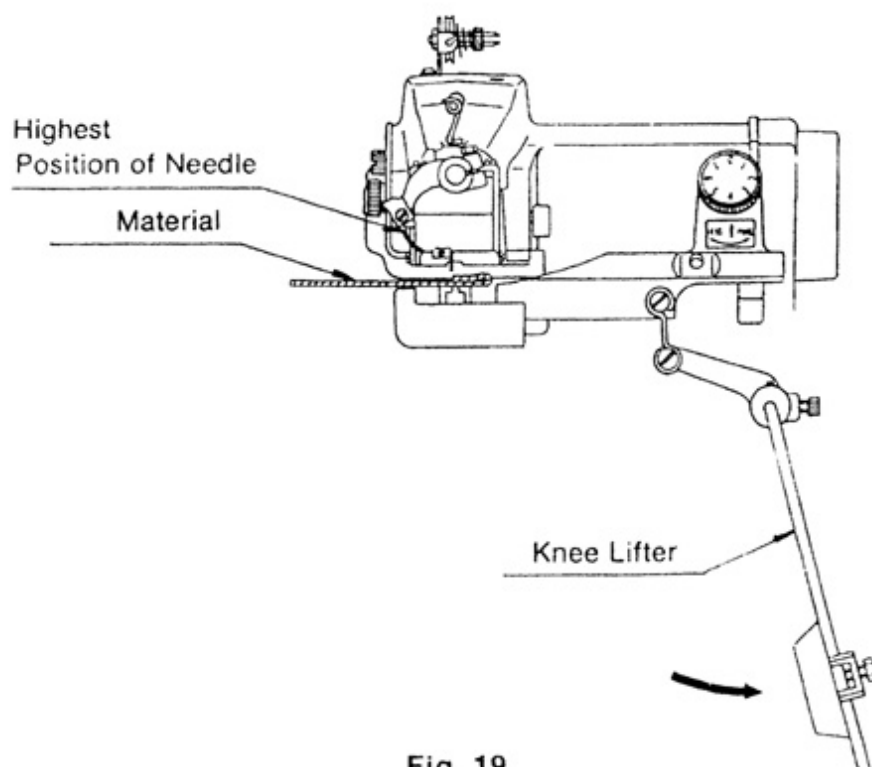

Fig. 19
10. Removal of the Work from the Machine (Fig. 19)